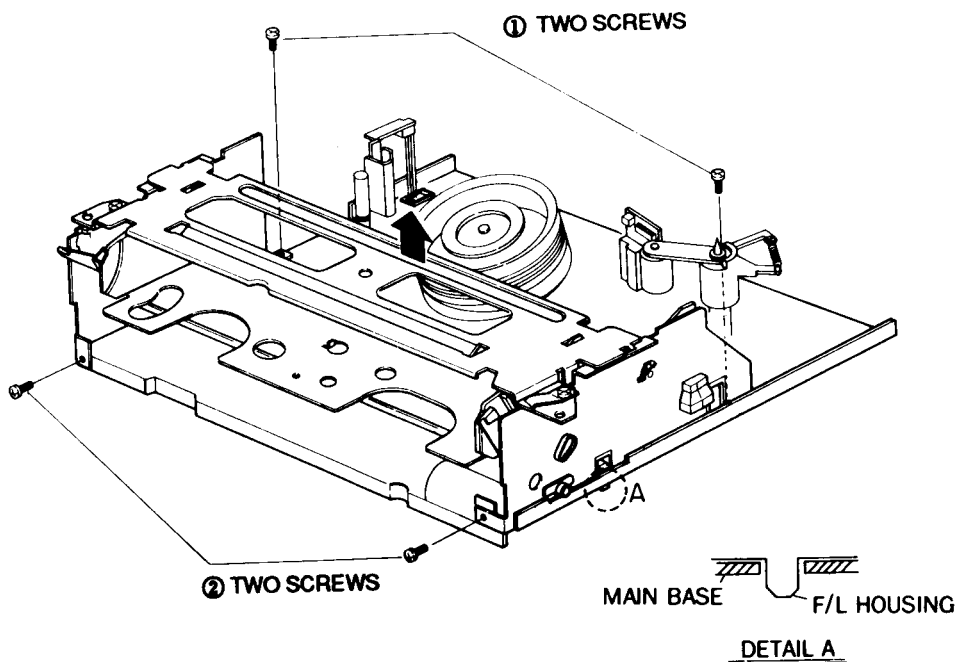

Fig. 11 Housing Ass'y Removal
1. Assemble the housing ass'y while pushing the rack gear forward to align the slot #1 of gear eject drive ② and the tooth #1 of rack gear ①. (Refer to Detail A)
2. Install the housing ass'y and then tighten four (4) screws (See Fig. 11)